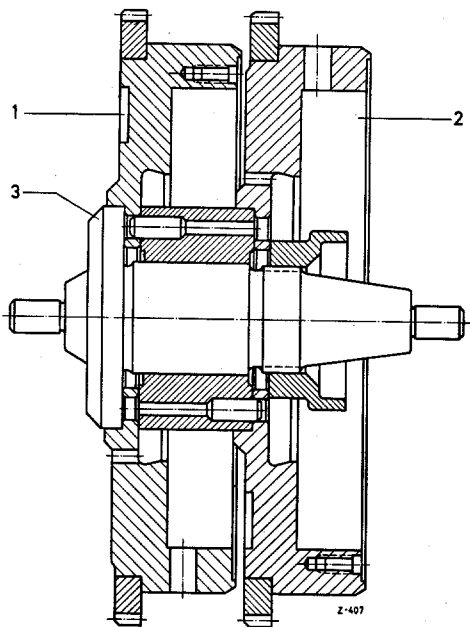

Fig. 03—5/19
1. Mount the old flywheel on Arbor Fixture 180 589 00 27. Slide the spacer ring with the two dowels onto the arbor and slide on the new flywheel, turned through 180° with respect to the old one, and tighten with the nut. When mounting the old and the new flywheels on the arbor, care must be taken to ensure that both flywheels are perfectly fitted together, with the recesses pointing in the same direction (Fig. 03—5/19).